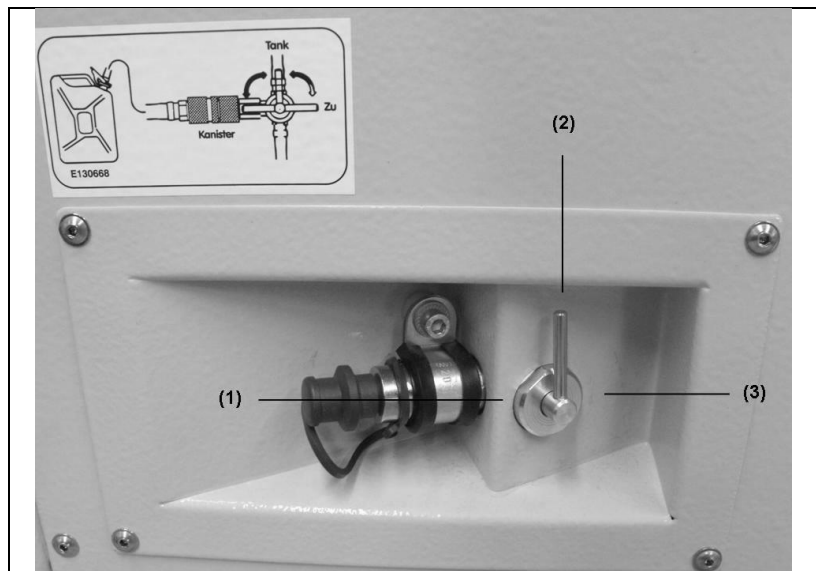

Fig. 5-10: 3-way fuel valve
3. Set the fuel cock to the internal tank (*Fig. 5-10-(2)*).
8. Set the fuel cock to "external fuelling" (*Fig. 5-10-(1)*).